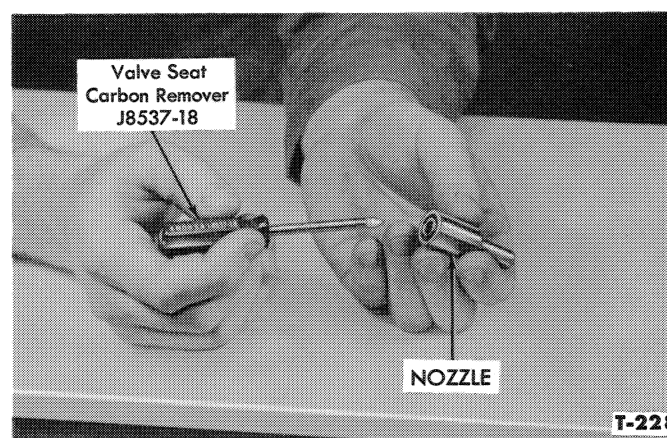

Figure 14—Cleaning Nozzle Seats
4. The seats are cleaned by rotating the Carbon Remover J8537-18 in the nozzle, Figure 14. Then, carefully clean the upper chamber with the same remover.